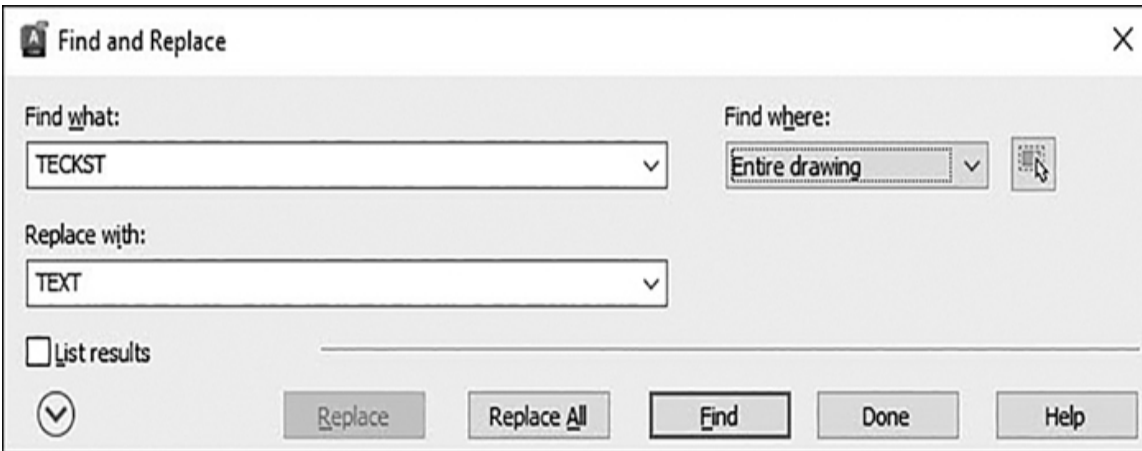

Figure 11-60
It is possible to limit what type of text to search for so you can refine your search via the **FIND** command's options explained later. When you start the **FIND** command, AutoCAD displays the **Find and Replace** dialog box shown in Figure 11-60.
- 3 Select the **Find Text** button on the right to display the **Find and Replace** dialog box shown in Figure 11-60.